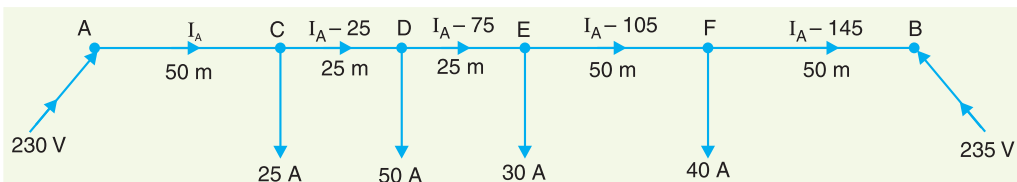

Fig. 13.19
**Solution.** Fig. 13.19 shows the distributor with its tapped currents. Let  $I_A$  amperes be the current supplied from the feeding point A. Then currents in the various sections of the distributor are as shown in Fig 13.19.